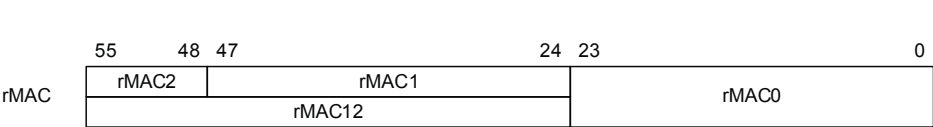

Figure 4.2: rMAC and rMACB Sub-register Definitions
The rMAC and rMACB registers are 56-bit registers that are located in register bank 1 of Kalimba, see Table 4.1. The rMAC (B) registers split into a set of separately accessible sub-registers. Figure 4.2 shows the size of these registers:
- rMAC (B) is the overall 56-bit register
- rMAC (B) 0 is a 24-bit register that forms the lower part of the rMAC (B) register
- rMAC (B) 1 is a 24-bit register that forms the middle part of the rMAC (B) register
- rMAC (B) 2 is an 8-bit register that forms the higher part of the rMAC (B) register
- rMAC (B) 12 is a 32-bit register that is a combination of rMAC (B) 2 and rMAC (B) 1 that forms part of the rMAC (B) register
- The 24-bit rounded and saturated version of rMAC (B) is often referred to as rMAC (B) 24. See Section 4.4 for details of the rounding operation.